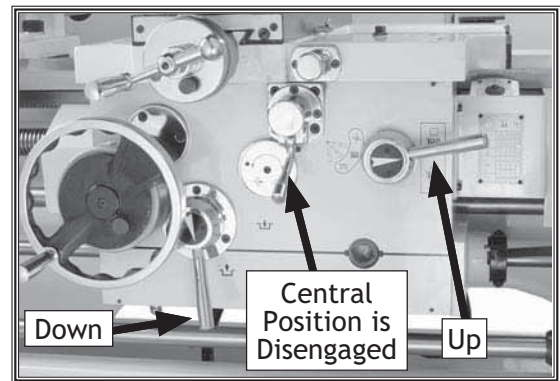

Figure 15. Disengaged carriage.
5. Move all power feed levers to the disengaged positions shown in **Figure 15**.